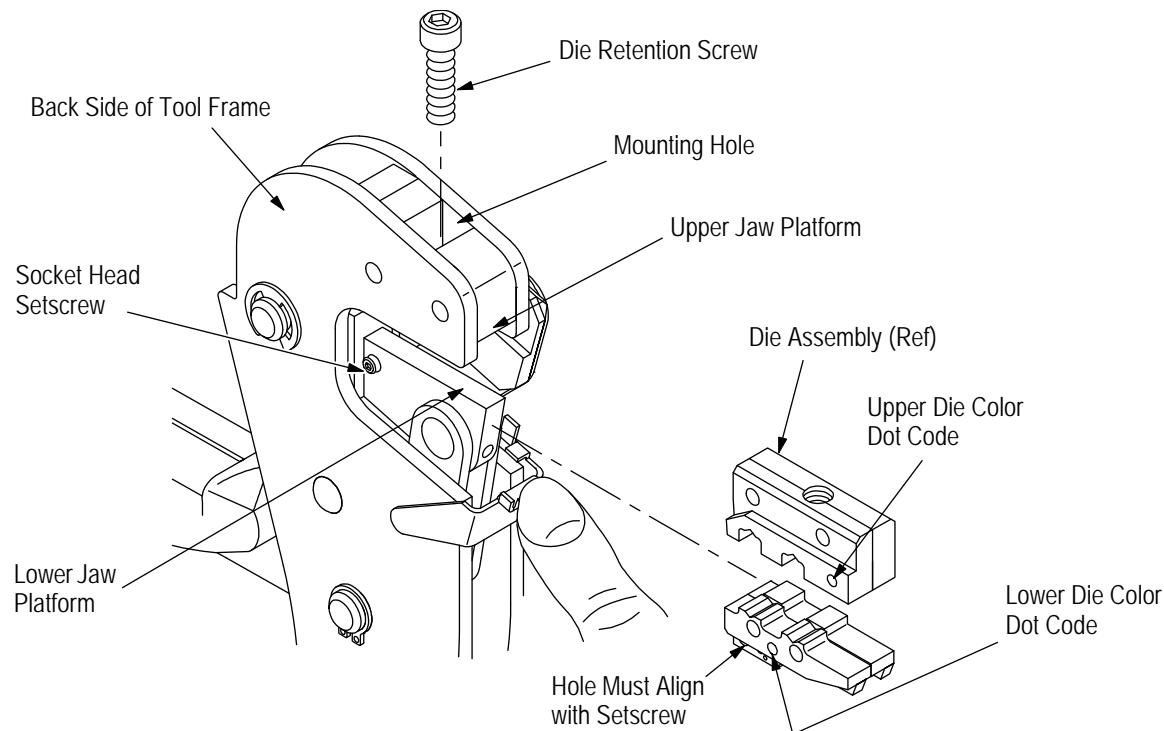

Figure 2
- Slide lower die onto lower jaw platform of tool frame. Make sure that the hole on the side of the lower die aligns with the socket head setscrew on the platform. See Figure 2.
- Slide upper die onto upper jaw platform of tool frame. Make sure the color dot code on upper die is on the same side as the color dot code on lower die. See Figure 2.